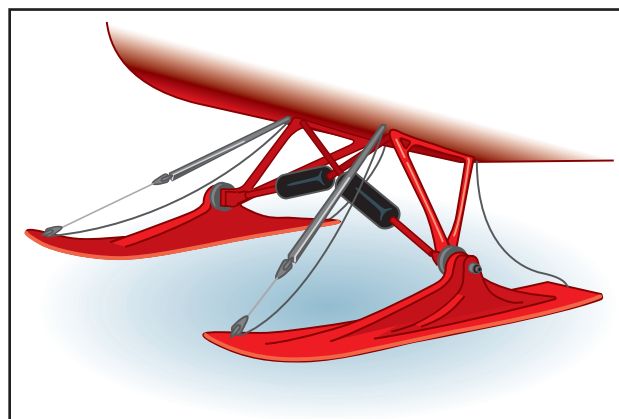

Figure 7-2. Wheel replacement ski.
- **Wheel Replacement**—Wheels are removed and ski boards are substituted. [Figure 7-2]